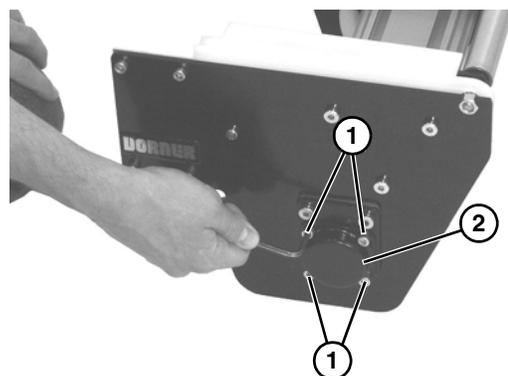

Figure 34
6. On the non-drive side, remove four socket head screws (**Figure 34, item 1**) and cover (**Figure 34, item 2**).